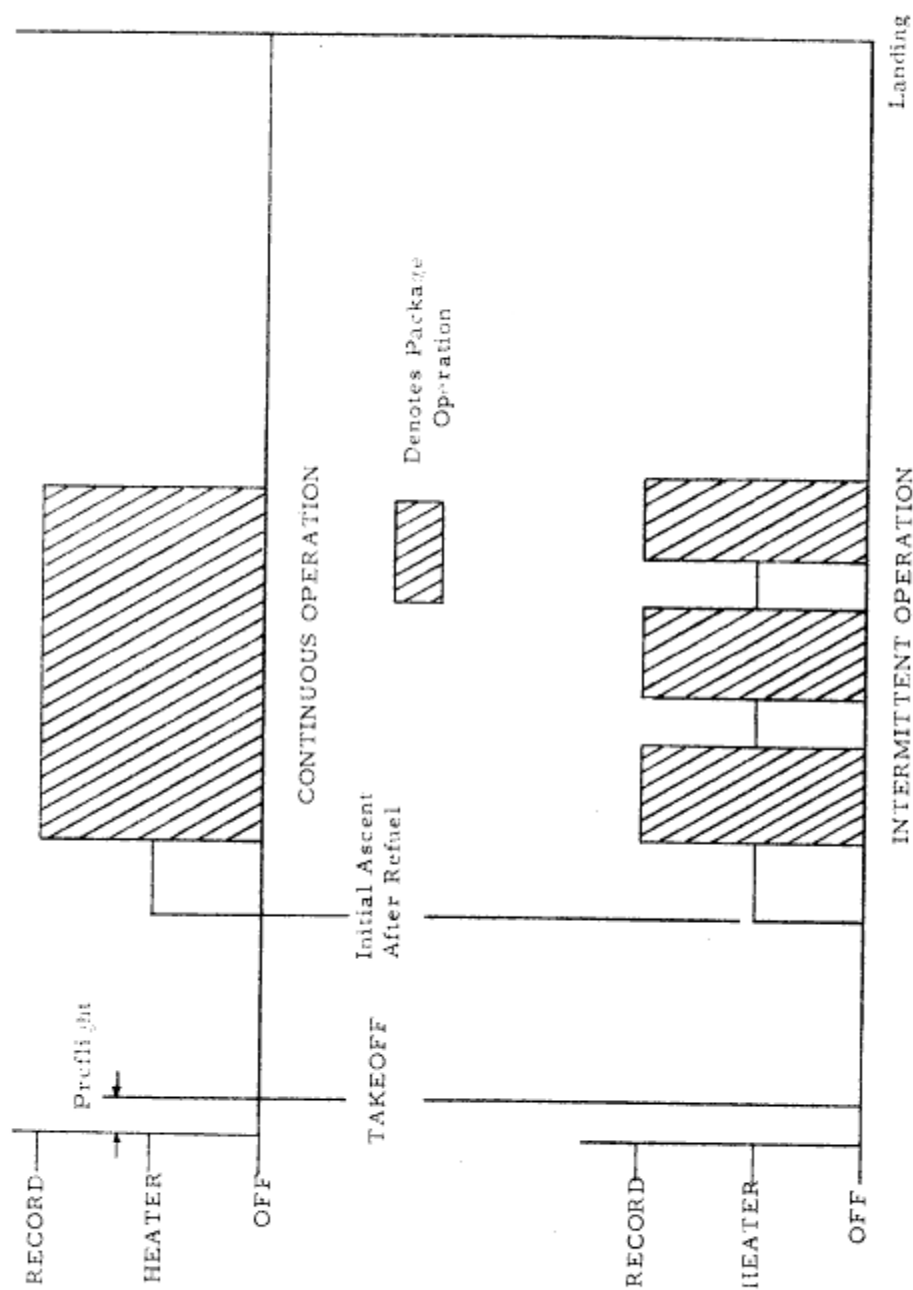

Figure 2-6. Typical Type II Mission Profiles
- 2-17. Two typical Type II mission profiles are shown in Figure 2-6. Mission 1 shows continuous operation of the package for a segment of the entire mission. Mission 2 shows intermittent operation of the package for arbitrary portions of the mission. During initial ascent after refuel, turn HEATER switch to ON position. Specific flight instructions will determine when the RECORD switch is to be turned to the ON position as shown in Figure 2-6.